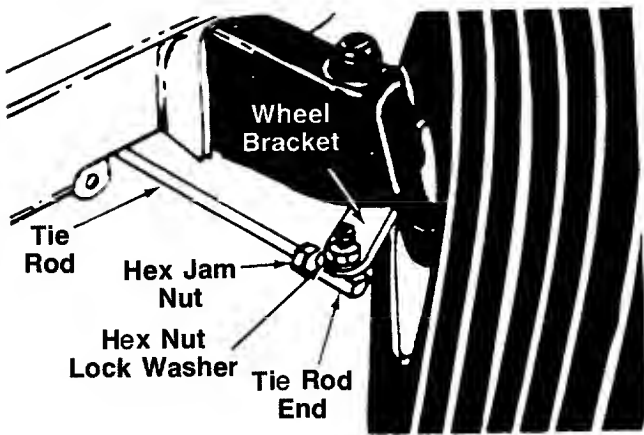

FIGURE 16.
1. Remove the hex nut and lock washer, and drop the tie rod end from the wheel bracket. See figure 16.